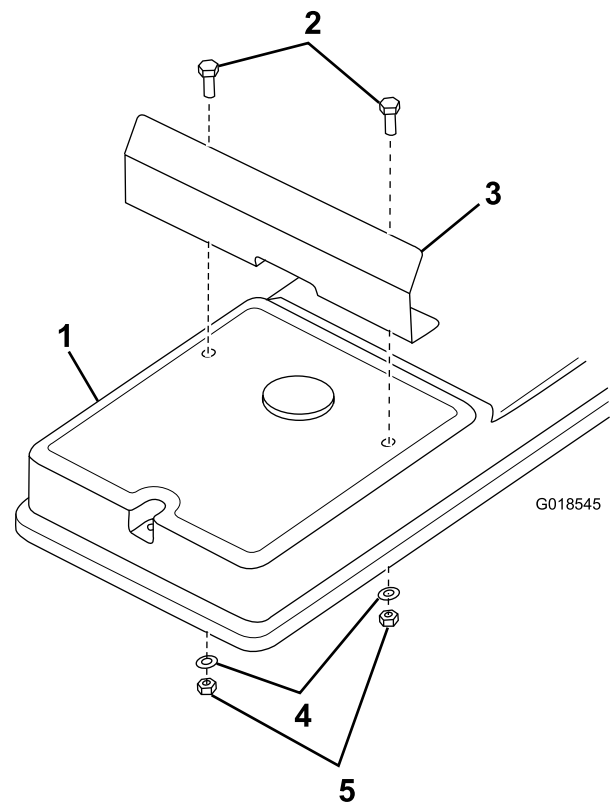

Figure 2
3. Secure the deck-belt-cover guard to the deck-belt cover with 2 bolts, 2 washers, and 2 nuts as shown in Figure 2.